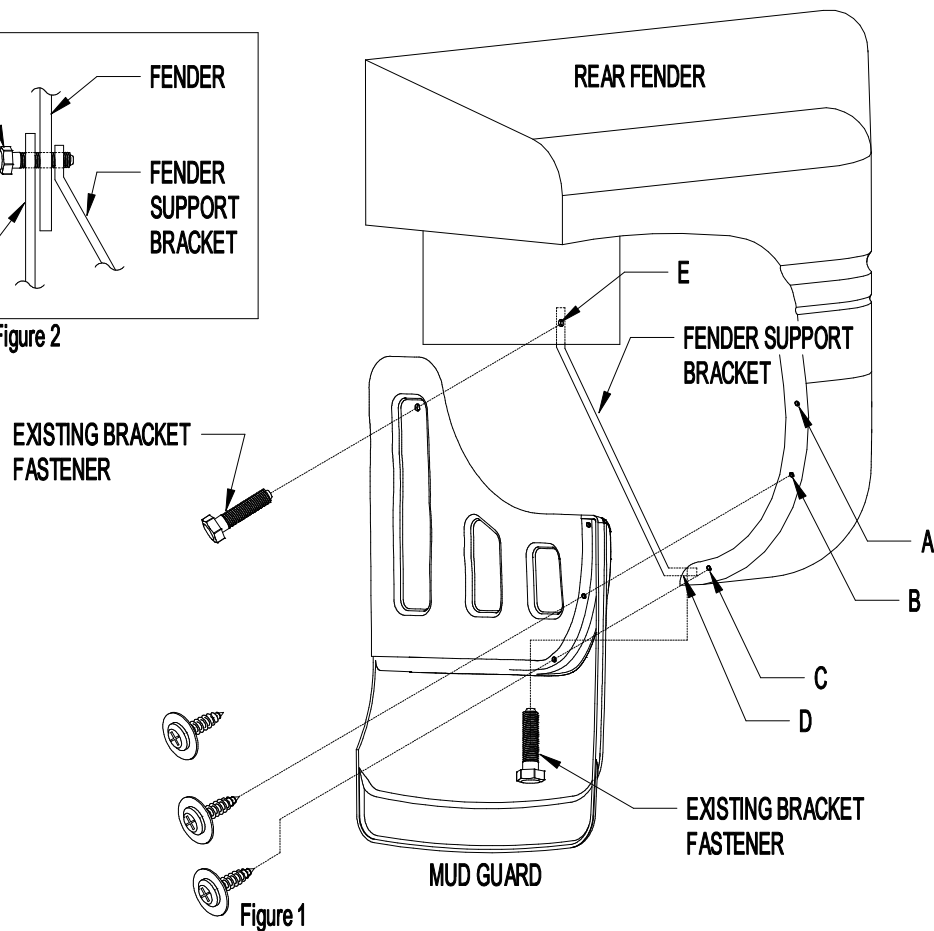

Figure 1
2. Remove existing bracket fasteners from locations D, and E using a 13 mm wrench or socket (Figure 1).
3. Attach mud guard by installing an existing bracket fastener at location D - through mud guard, fender, and into fender bracket (Figures 1 and 2).
4. Using mud guard as a template, center punch and drill 1/8" holes at locations A, B, and C (Figure 1).
6. Install existing bracket fastener at location E - through mud guard, fender, and into fender bracket (Figures 1 and 2).